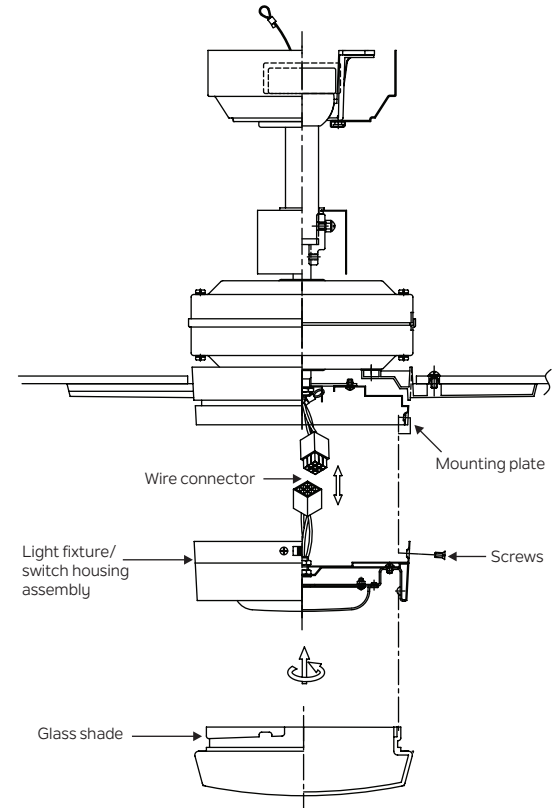

Fig. 18
**Step 1.** While holding the light fixture/switch housing assembly under your ceiling fan, push the square wire connectors together. One from the fan and one from the switch housing. (Fig. 18)
Attach the light fixture/switch housing assembly to the mounting plate with the three screws provided. Make sure each screw is tight. (Fig. 18)